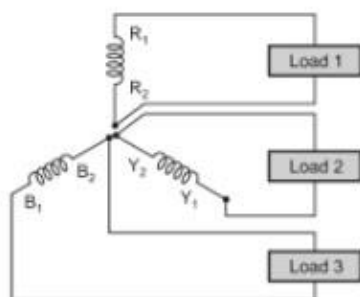

Fig. 1.5.1 Three phase connections
- If all the six terminals are used independently to supply voltage to load as shown in the Fig. 1.5.1, then total six wires will be required and it will be very much costly.